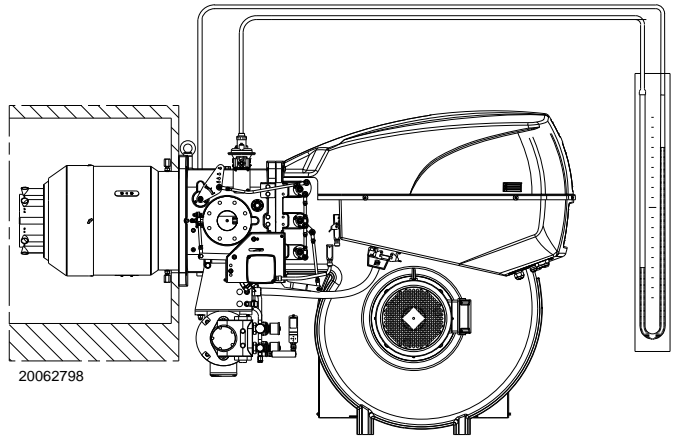

Fig. 32
- Fit a U-type pressure gauge or a differential pressure gauge (Fig. 32), with socket (+) on the gas pressure of the pipe coupling and (-) in the combustion chamber.
The arrival of gas at the sleeve is indicated by the U-type manometer (Fig. 32).